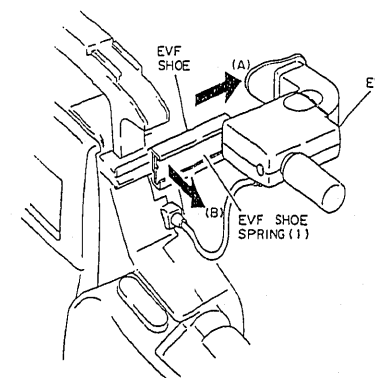
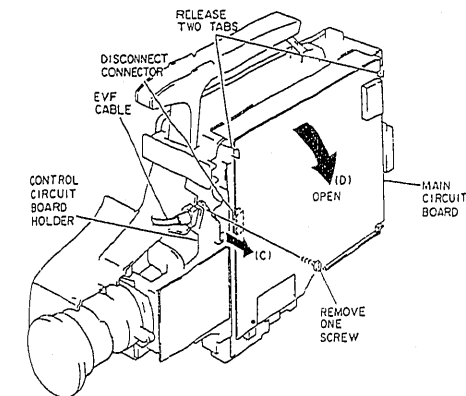

Fig. 2-2
Fig. 2-3
1. Move the EVF in the direction of arrow (A). (See Fig. 2-2)
2. While pulling the EVF shoe spring (1) in the direction of arrow (B), remove the EVF in the direction of arrow (A).
3. Remove one (1) screw and move the camera chassis in the direction of arrow (C) to release the EVF cable. (See Fig. 2-3)
4. Release two (2) tabs and open the main circuit board in the direction of arrow (D).
- Note: When reinstalling the EVF, first attach the EVF shoe spring (1) to the EVF shoe.
1. Open the main circuit board. (See Fig. 2-3)